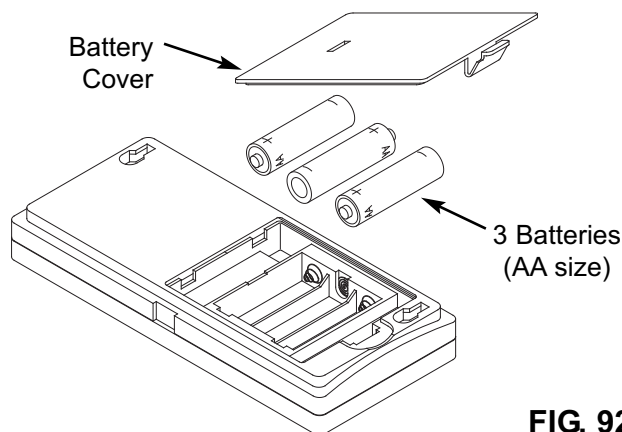

FIG. 92
2. Install three (3) AA size batteries, making sure that they are oriented to match the + and – markings inside the battery compartment (See Figure 92).